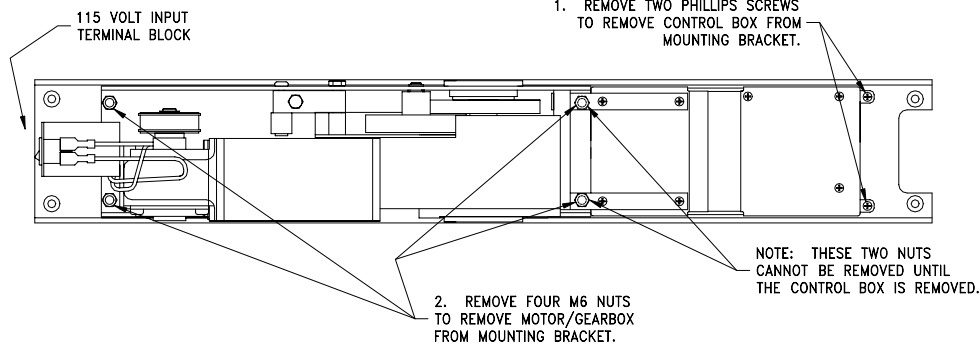

FIGURE 3: MOTOR/GEARBOX & CONTROL BOX REMOVAL
1. Remove the control box and motor/gearbox from the mounting bracket (Figure 3).
5. Connect power to the terminal block (Figure 3), matching black to black (live), white to white (neutral), and ground to the grounding stud.